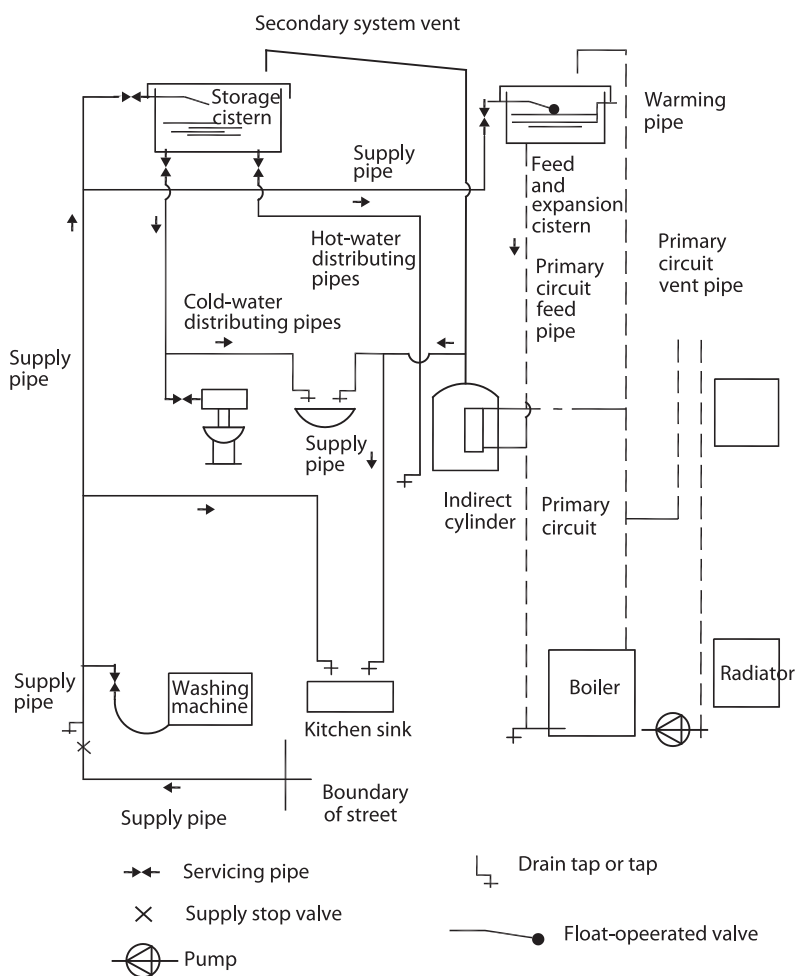

Figure 10.3: Schematic diagram of typical household plumbing system.
- The vast majority of houses in the UK and Ireland have indirect or low-pressure systems (Lee 2001), with only the cold water tap that serves the kitchen, and possibly the cold-water tap to the washing machine, directly connected to the rising main (Figure 10.3). The rising main goes up into the attic to discharge into a cold-water storage cistern. From this cistern distribution pipes feed all the other cold taps, the lavatory cistern and the hot-water system. Most water supply companies insist on the use of a storage cistern to ensure that at times of peak usage all demands are